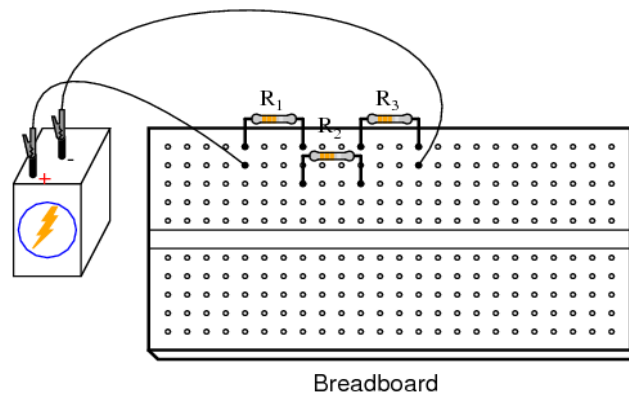

Figure 3.2. Electrical Diagram for Series Conductors using Breadboard
- 1.4 Turn ON the supply voltage, then measure and record the source voltage and current in each resistor R_1 , R_2 , and R_3 on Table 3.2 using Figure 3.2. (This will give emphasize on the effect of temperature in an electric conductor due to current, otherwise known as hot resistance).